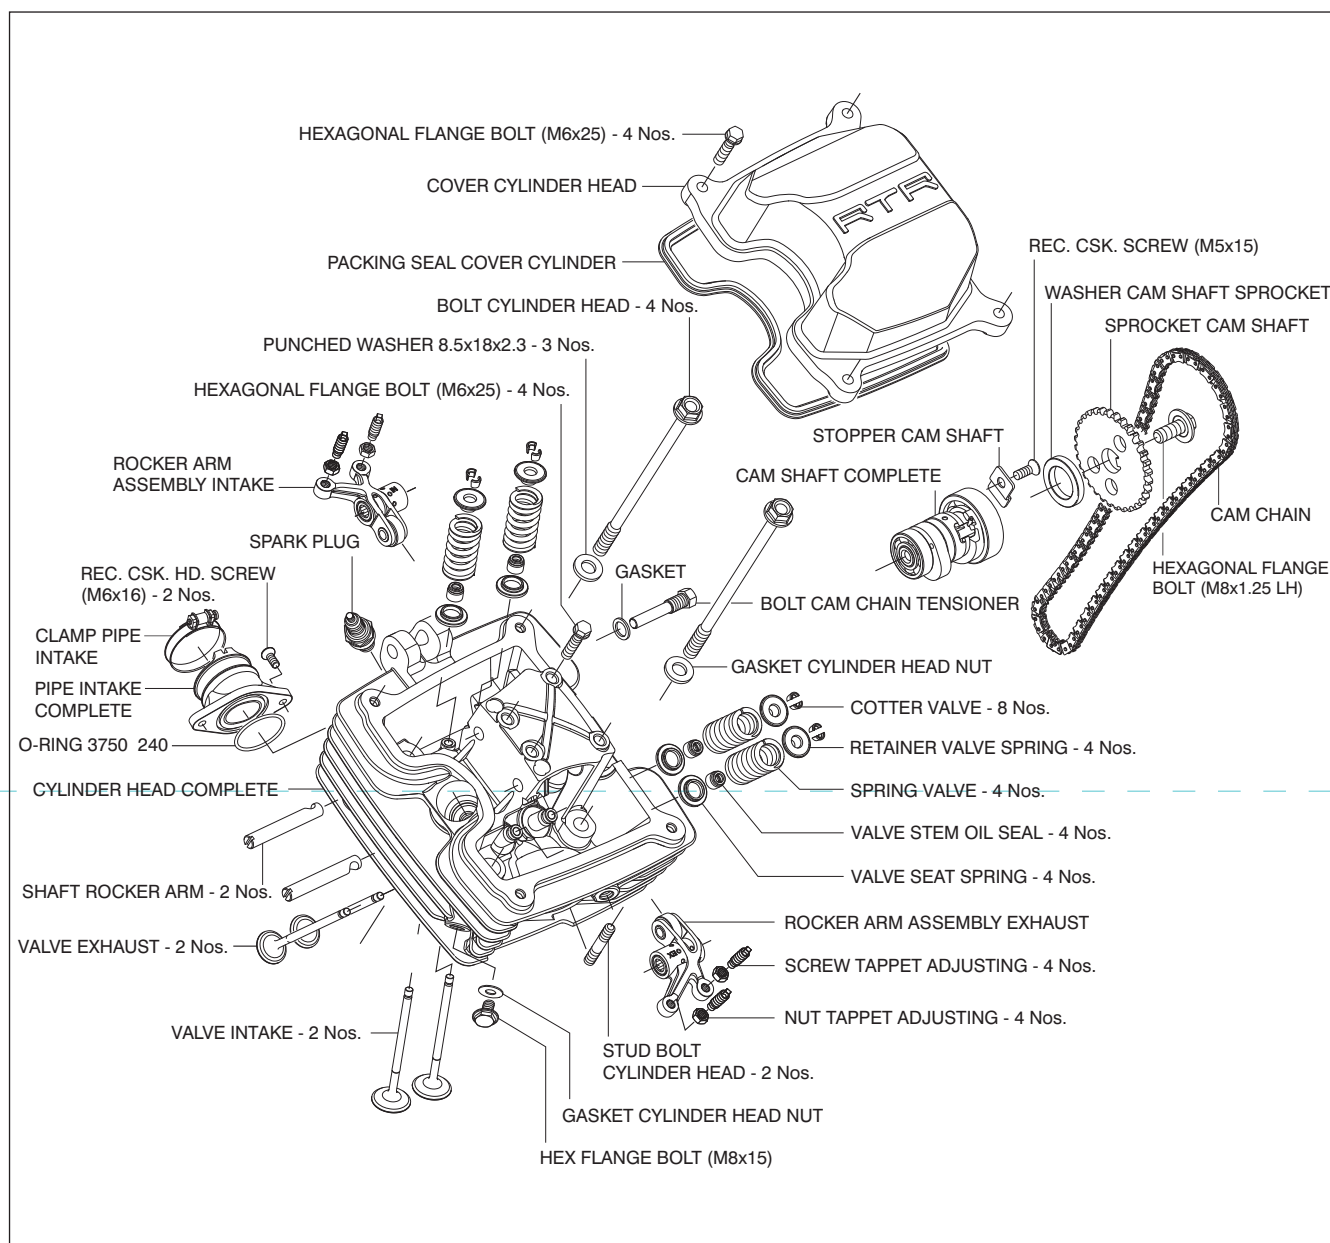

Fig. 3.71
- For reassembly, reverse the disassembly procedure while taking care of the following instructions. Refer exploded view of cylinder head assembly for assembly details. (Fig. 3.71)